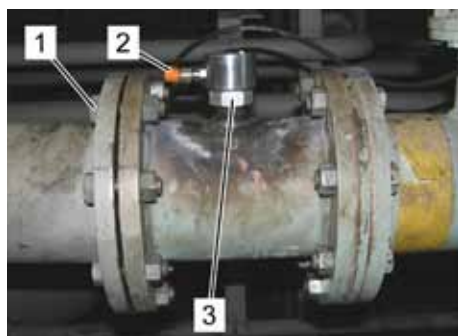

Fig. 49: Sensor mounted
4. Install the water-in-oil sensor according to Fig. 49.